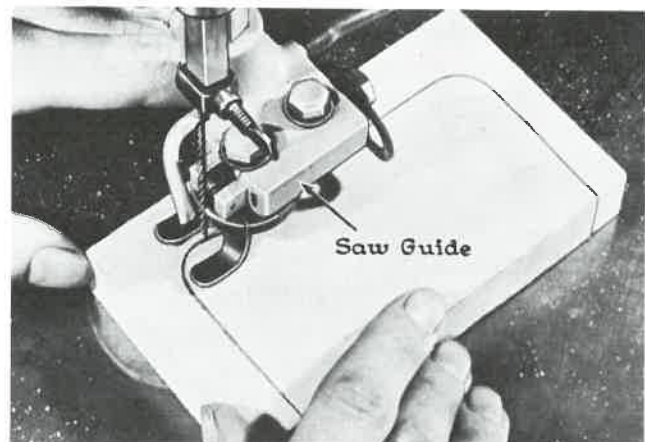

Fig. 15-28. Making a simple cut. (Jam Handy Organization)
5. When the saw is running, do not permit your fingers to get directly in line with the blade. Usually the work can be held on either side of the cutting line as shown in Fig. 15-28.